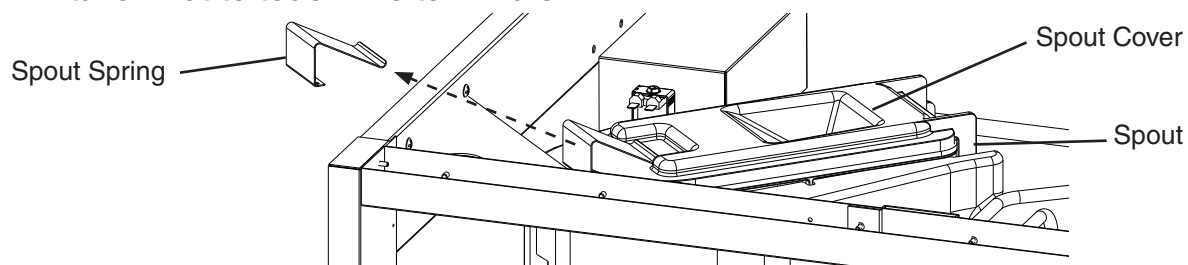

Fig. 20
- 3) Remove the spout spring from the spout. See Fig. 20.